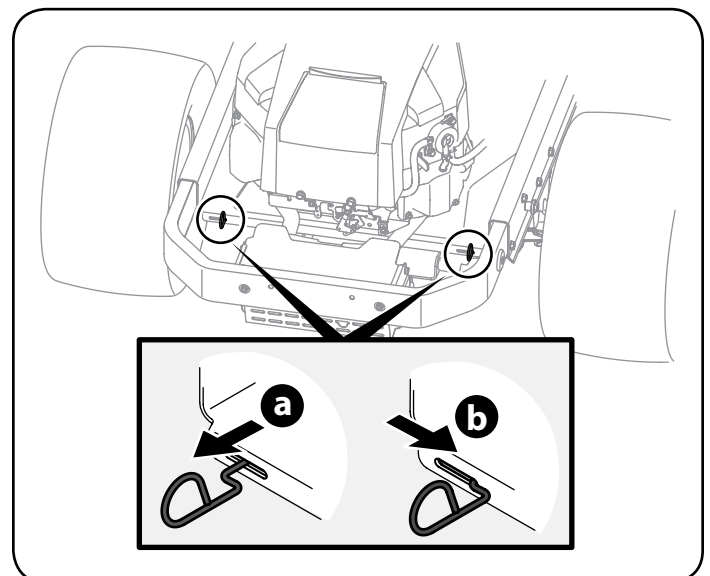

Figure 27
1. Locate the hydrostatic bypass rod in the rear of the riding mower. See Figure 27.
- Engage the bypass rods by pulling each one out (a) and to the right (b) to lock it into place. See Figure 27.
- Disengage the bypass rods by reversing steps a & b after moving the tractor. See Figure 27.